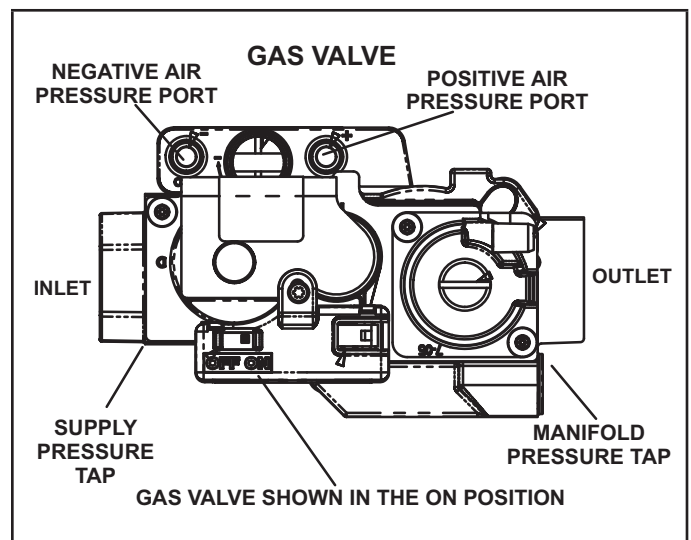

FIGURE 56
## Gas Valve Operation (FIGURE 56)
- 6 - Move the gas valve switch to the OFF position. See FIGURE 56.
- 8 - Move gas valve switch to the ON position. See FIGURE 56. Do not force.